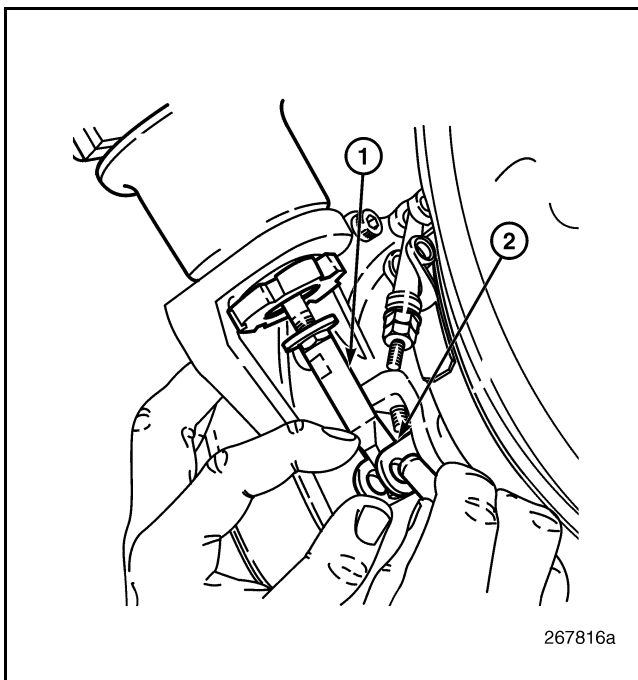

Figure 530 — Vane Operating Lever Connection
6. With air pressure applied and the actuator rod extended, move the lever arm clevis to align the hole in the clevis with the hole in the rod end and insert the clevis pin (Figure 530).